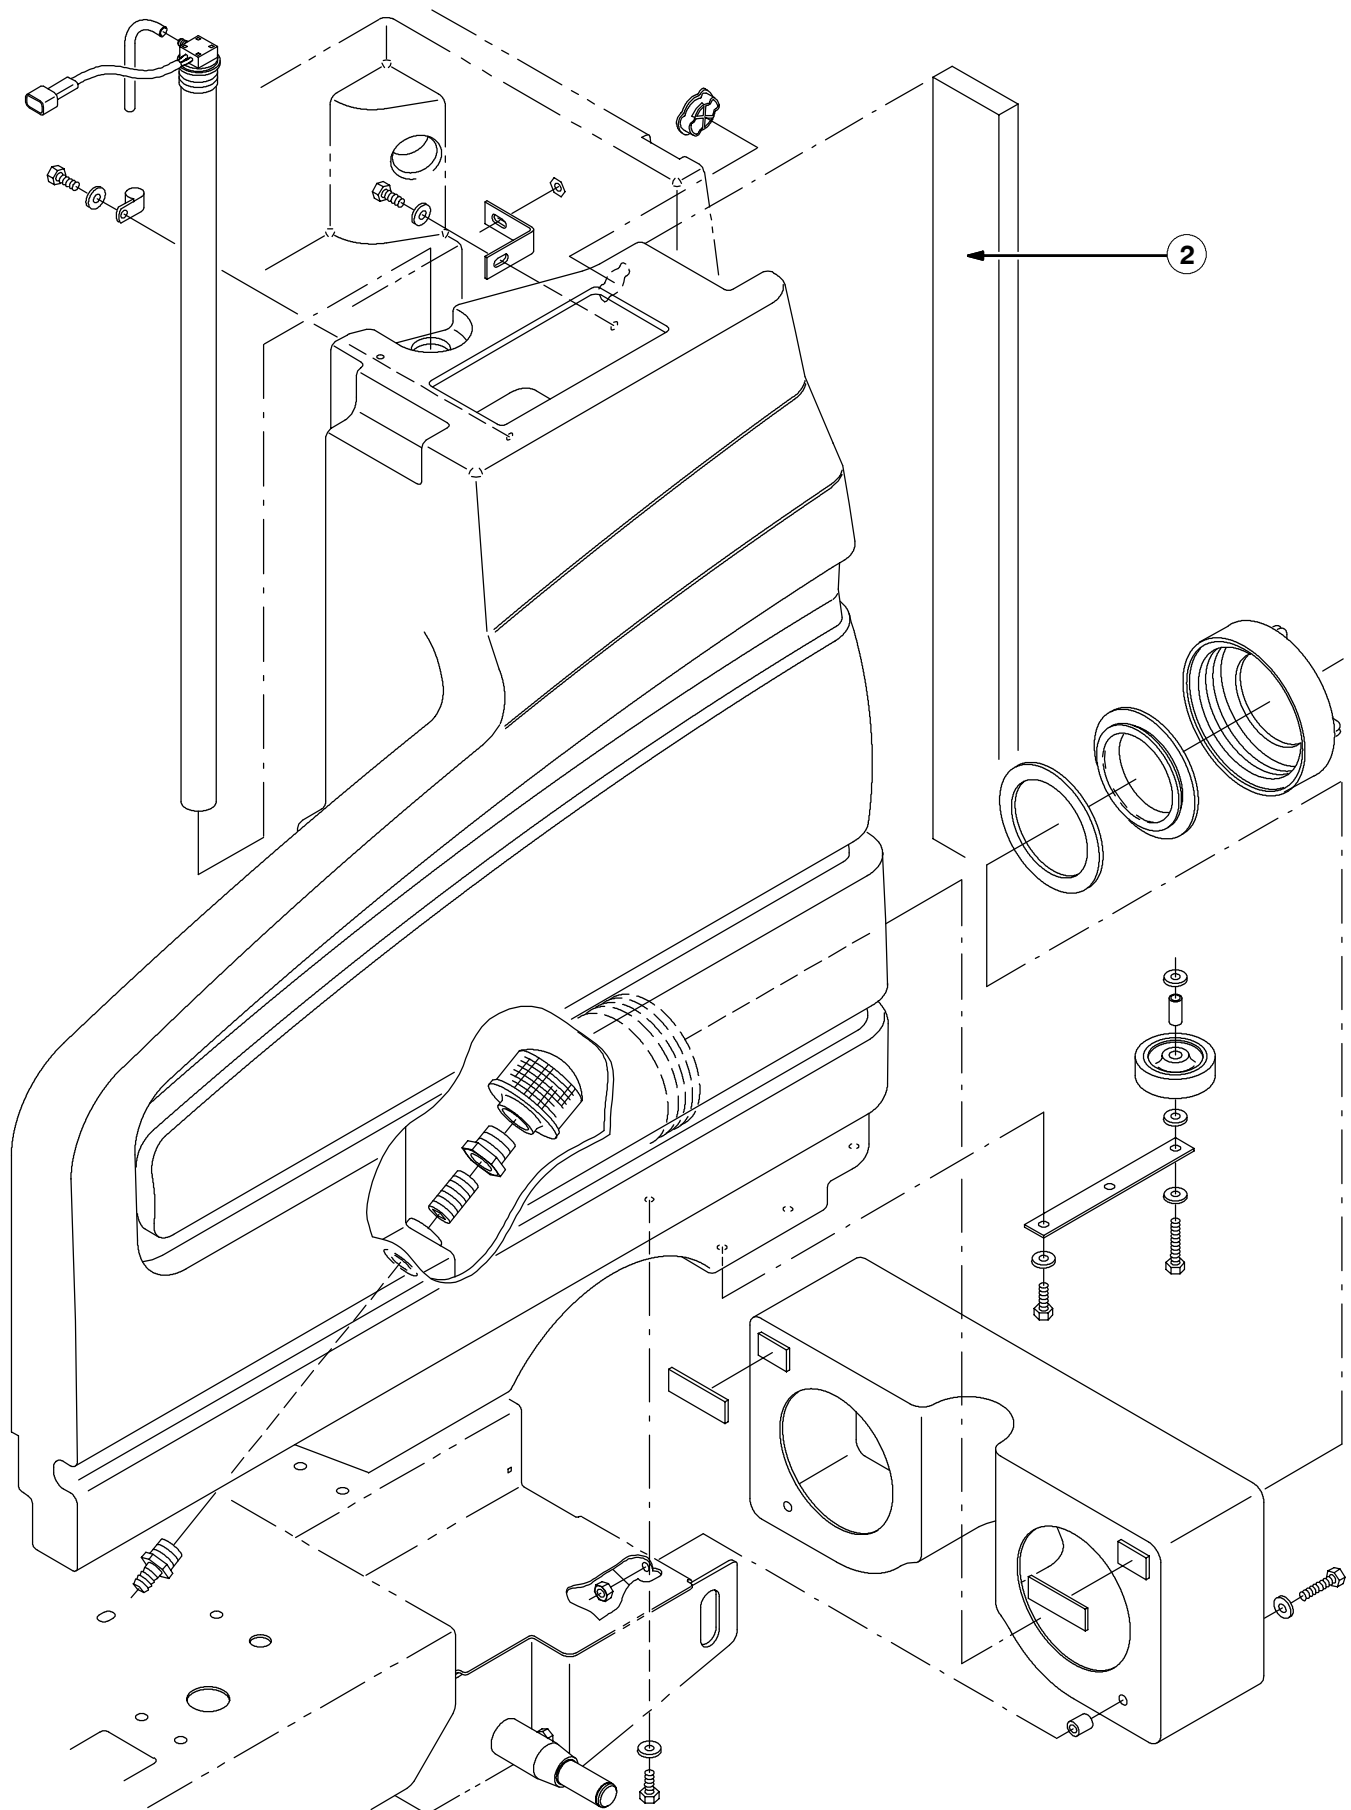

FIG. 1 - BREAKDOWN, SOLUTION TANK, 7100
(Refer to FIG. 1, 2 and 3)
4. 7100: Swing the 7100 recovery tank out enough to install the 1" X 3.5" X 33" sound foam (2). (Refer to FIG. 1)
Position the sound foam flush at the top. Using the self adhesive is optional. (Refer to FIG. 1)